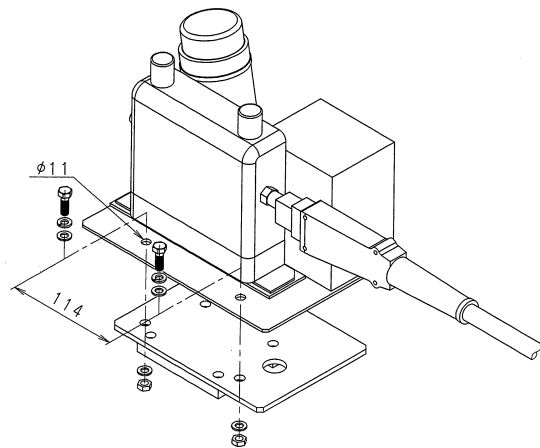

Fig. 1.2 Mounting of wire feeding unit
2. Referring to Fig. 1.2, mount the wire feeding unit to the fixing bracket. For mounting, use the hexagon head bolts and washers and nuts provided with the feeding unit.
For RA05L, the wire feeding unit cannot be mounted on the arm. Accordingly, mount it separately from the arm by yourself with consideration of workpieces and other obstacles. (See Fig. 1.2 as a reference when mounting it.)